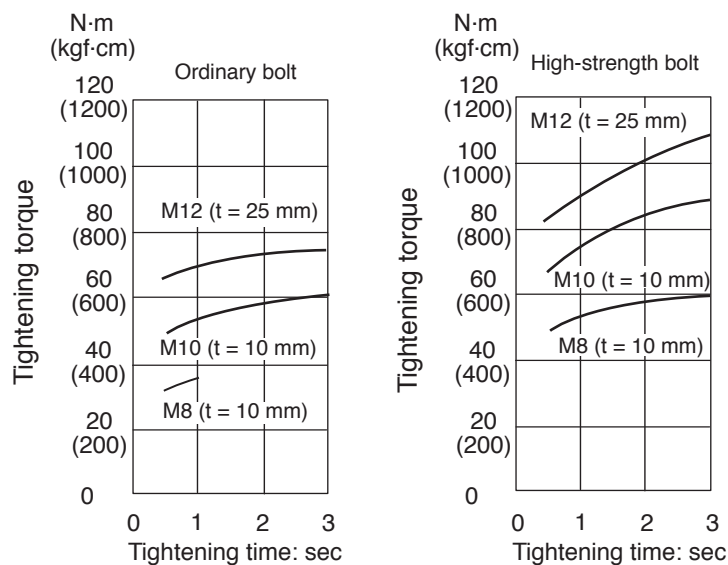

Fig. 5
Figure 5 shows relationships between time and tightening torque for individual bolt types and sizes. While the data are useful for handy reference, actual tightening torque will vary depending on tightening conditions and other variables. For details, please refer to Para. 8-3, Tightening Torque Variation.
- In the tightening conditions shown in Fig. 5, the screws are being tightened directly into a steel plate; accordingly, the torque goes up very abruptly in comparison with ordinary bolt tightening conditions.